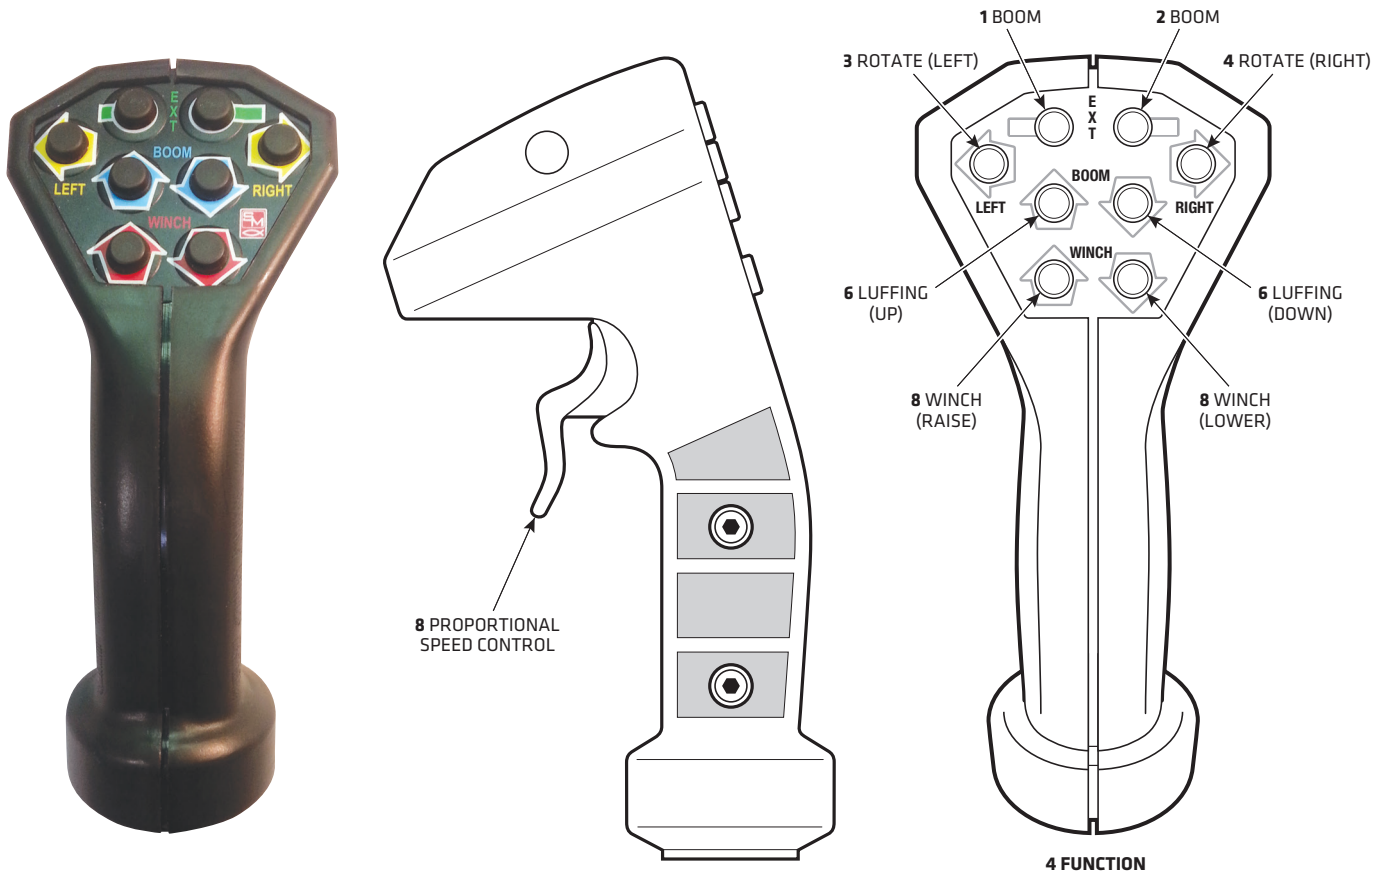

Figure 7: Pendant Control
4. Attach the tender's lifting bridle to the weighted hook. Using the pendant control (*Figure 7*), position the lifting bridle to enable attachment to the tender.